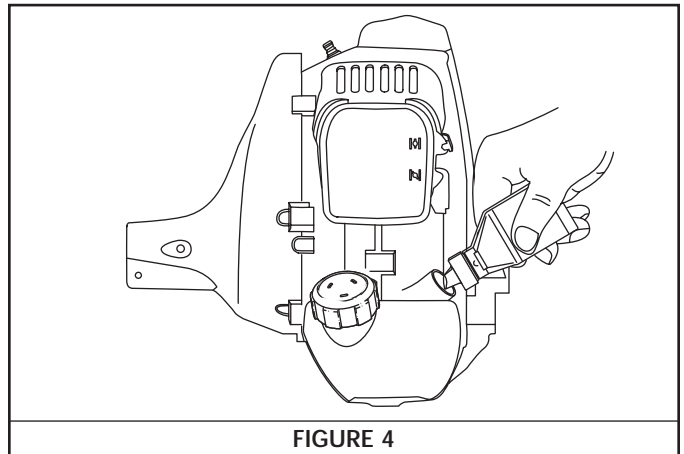

FIGURE 4
3. Pour 100ml of oil into the oil fill hole. See Figure 4.